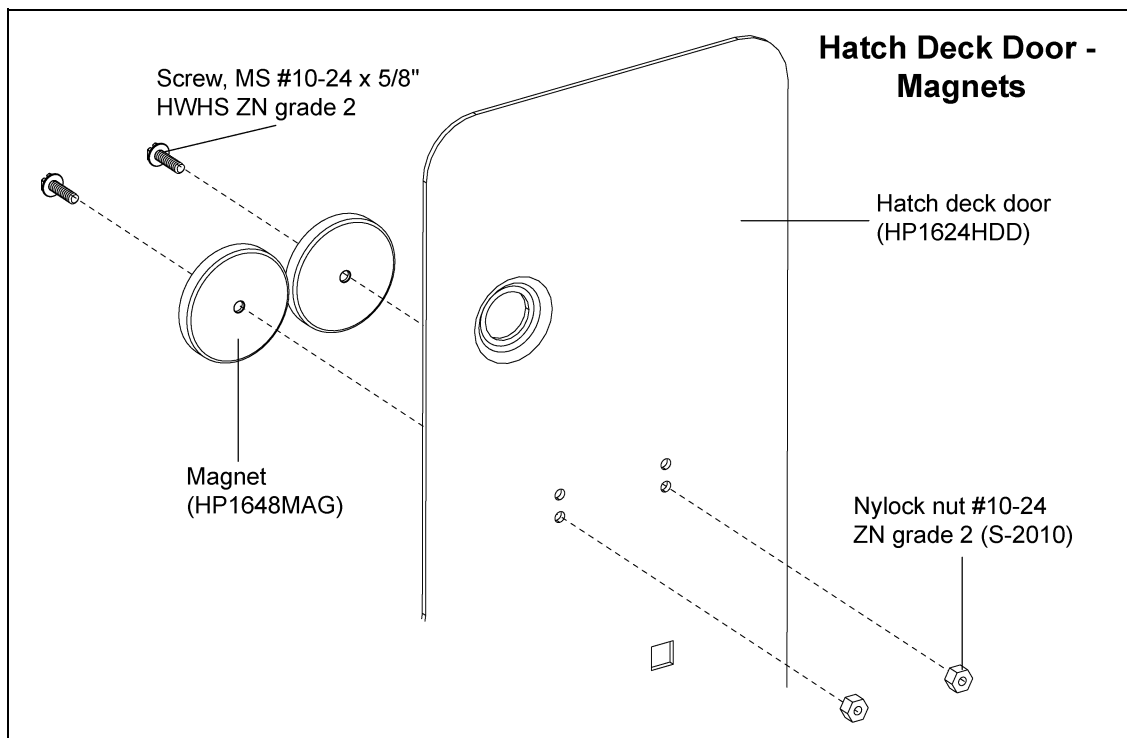

Figure 11C
- Slide two (2) magnets (16-0092) onto each MS #6 x 3/4" FHS flat head screw (S-7166). Position the magnet so the screw head is countersunk into the magnet. *(See Figure 11C.)*